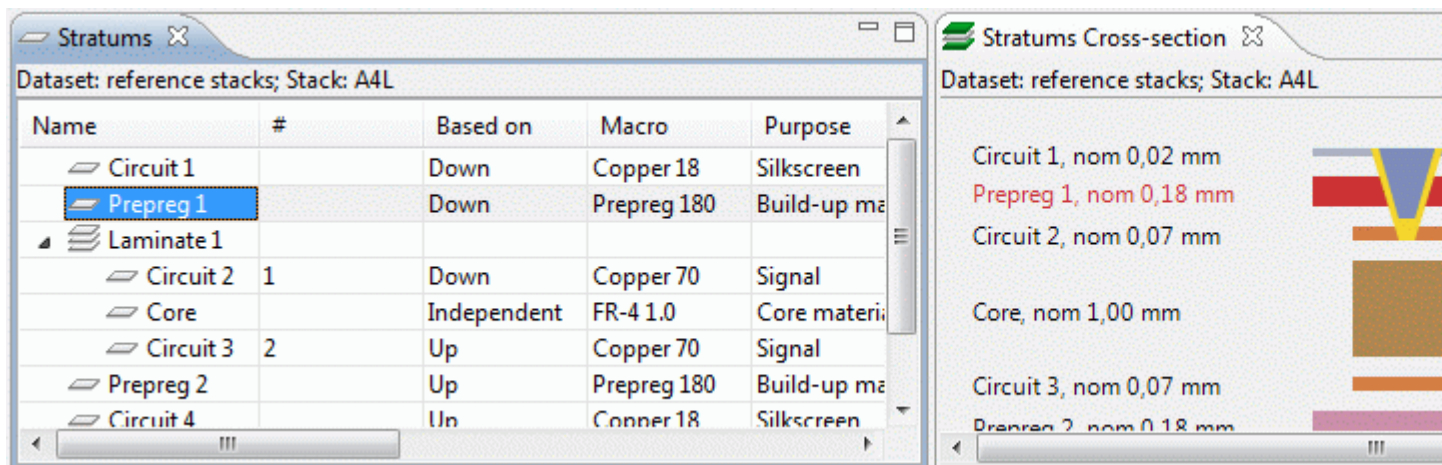
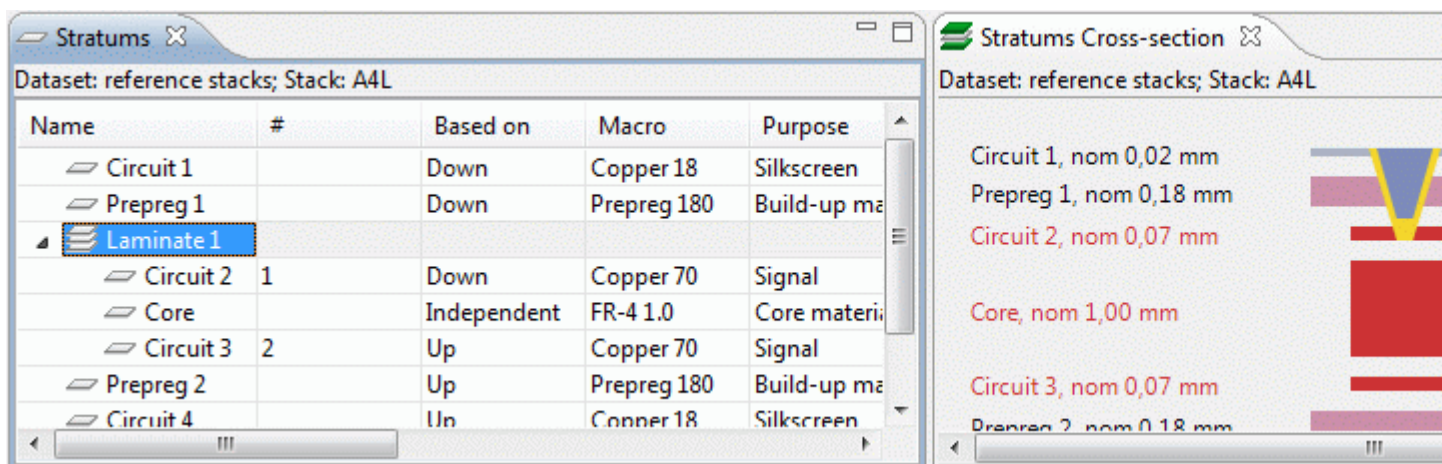

Figure 2. Stratums view with selected layer and Stratums Cross-section view with the highlighted layer
Figure 3. Stratums view with selected sequential group of layers and Stratums Cross-section view with the highlighted layers
- The particular layer or group of layers is highlighted in the  Stratums Cross-section view (see Figure 2 and Figure 3).